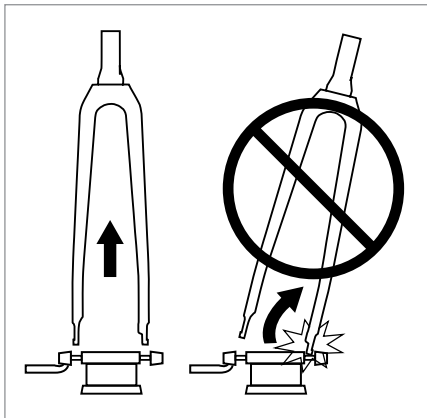

Figure 12
2. To remove the bicycle, lift the fork straight up so the dropouts disengage evenly. Tilting the bicycle off the rack can damage the dropouts (Fig. 12).